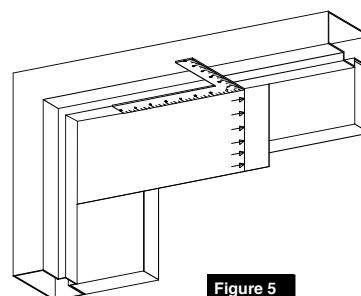

Figure 5
6. With door closed, use a square to mark centerline of arm mounting shoe onto underside and face of frame header and door stop. (Figure 5) This line is shown on template.